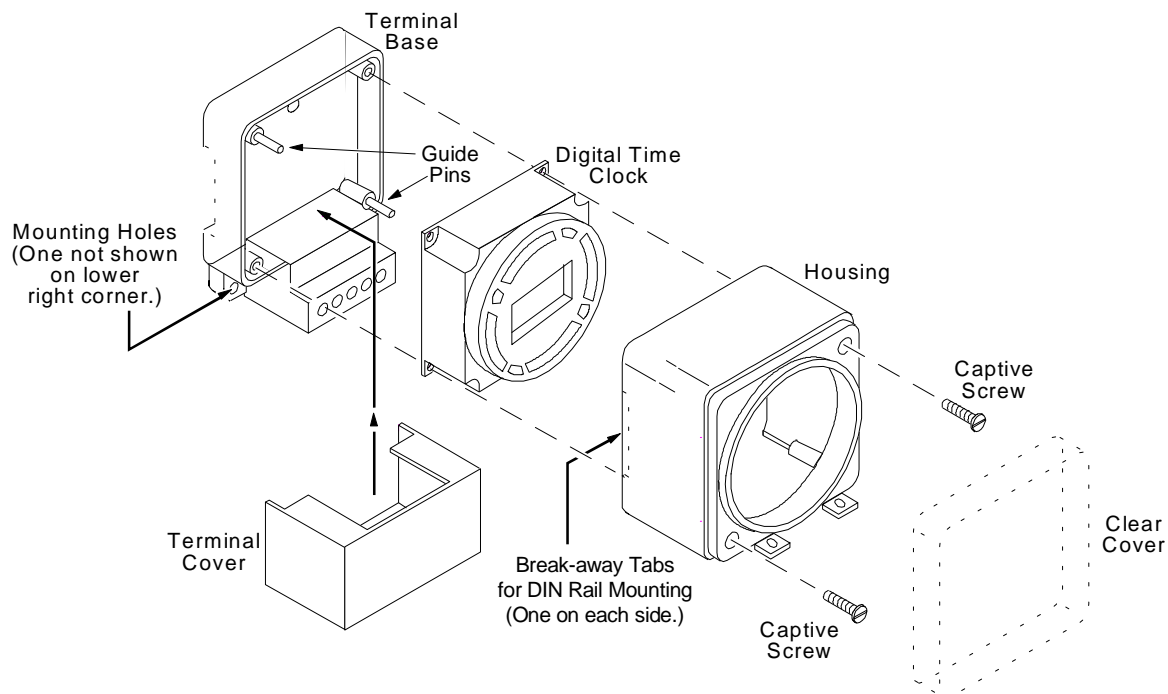
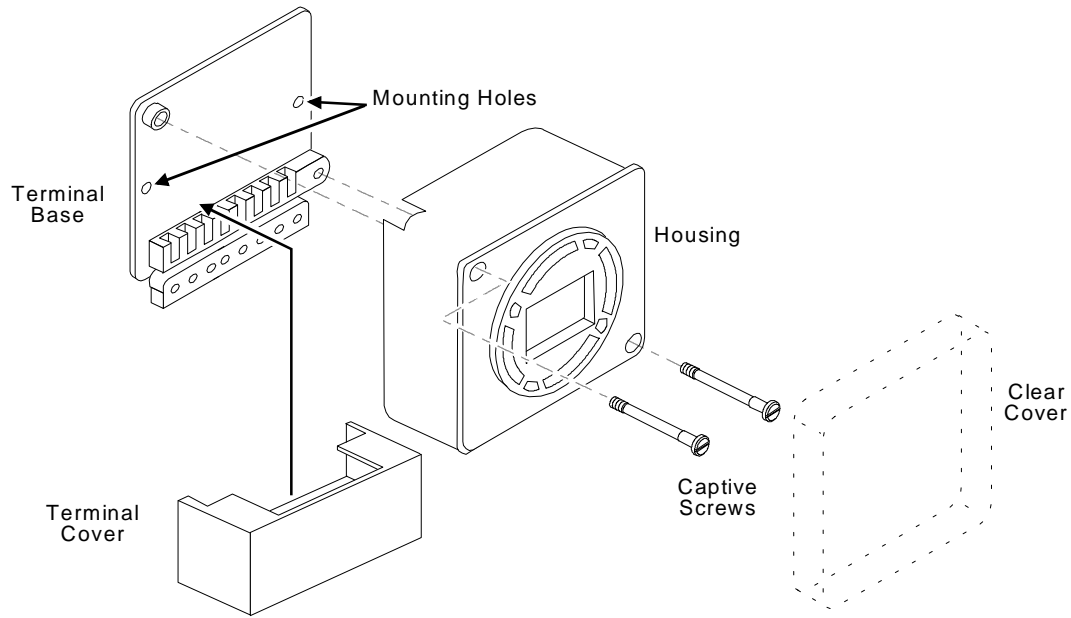

Figure 2: C-7355-9 Time Clock
Figure 3: C-7355-10 Time Clock
2. Using a screwdriver, loosen the two captive screws located in the upper right and lower left corners of the housing. See Figure 2.
2. Using a screwdriver, loosen the two captive screws located in the upper and lower corners of the housing. (See Figure 2 for the C-7355-9 or Figure 3 for the C-7355-10.)
5. Place the terminal base against the desired mounting surface and mark the location of the two mounting holes. (See Figure 2 for the C-7355-9 or Figure 3 for the C-7355-10.)